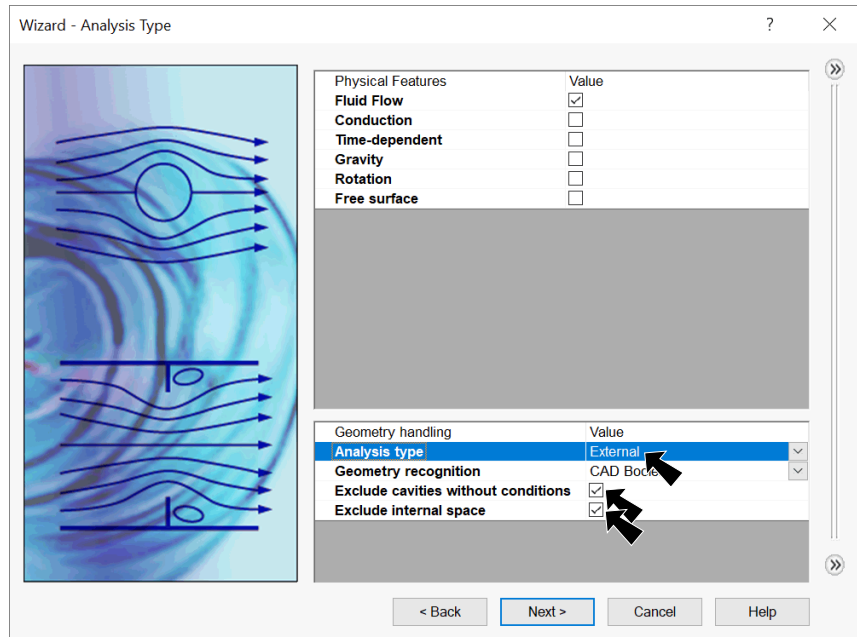

Fig. 5
Step 9. **Analysis Type:** Under Analysis type, select **External**, **Fig. 5**.
Check **Exclude internal space**, **Fig. 5**.